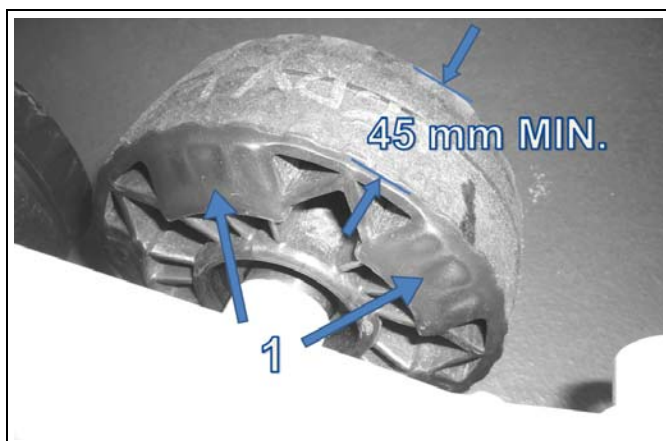

Figure 29
Verify the wear of the wheels especially on the interior guidance strip (Figure 29). The wheel must be replaced if the inner surface (1) is perforated or when the thickness of the wheel rolling band reaches a thickness of 45 mm. A wheel that is excessively worn will not offer enough support for the track's guidance.